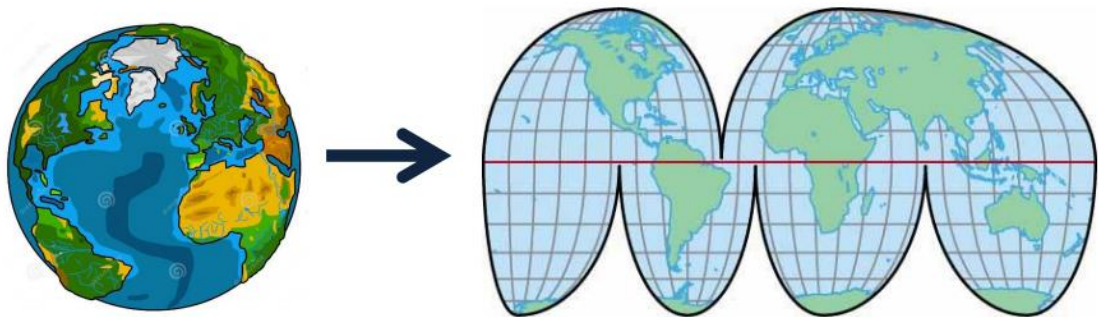

Figure 1.27 – Geographic and projected coordinate systems in QGIS [12]
- Defines locations on flat model of the earth, Fig. 1.27